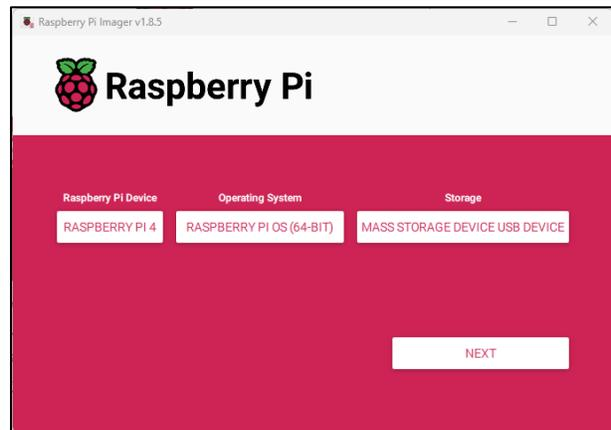

Figure 82 Confirmation
6. Verify the configuration matches the selections in **Figure 82**; select **Next**, then **Edit Settings**.